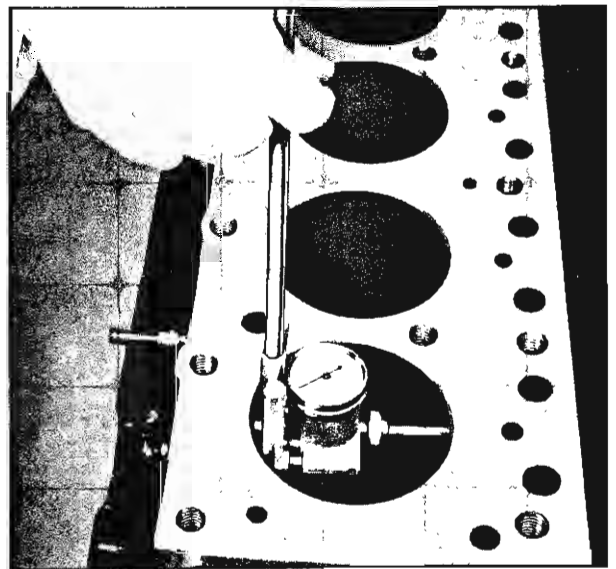

Fig. 32—Checking Cylinder Bore with Dial Gauge
2. Check the cylinder walls for taper, out-of-round or excessive ridge at top of ring travel. This should be done with a dial indicator (fig. 32). Set the gauge so that the thrust pin must be forced in about 1/4" to enter gauge in cylinder bore. Center gauge in cylinder and turn dial to "0." Carefully work gauge up and down cylinder to determine taper and turn it to different points around cylinder wall to determine the out-of-round condition. If cylinders were found to have more than .002 out-of-round, boring will be necessary.